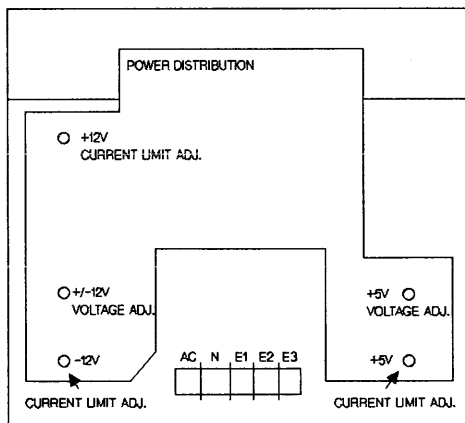

Figure 6-1. Power Supply and Distribution PCA
2. Adjust the +5V test potentiometer, shown in Figure 6-1, until voltage is within limits specified in Table 6-1.
4. Adjust the +12V test potentiometer, shown in Figure 6-1, until voltage is within the limits specified in Table 6-1.
2. Adjust the +5V potentiometer, shown in Figure 6-1, until voltage is within limits specified in Table 6-1.
4. Adjust the +12V potentiometer, shown in Figure 6-1, until voltage is within limits specified in Table 6-1.